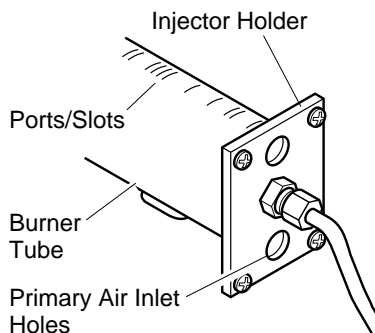

Figure 30 - Injector Holder On Outlet Burner Tube
2. Inspect burners, pilot, and primary air inlet holes on injector holder for dust and dirt (see Figure 30).